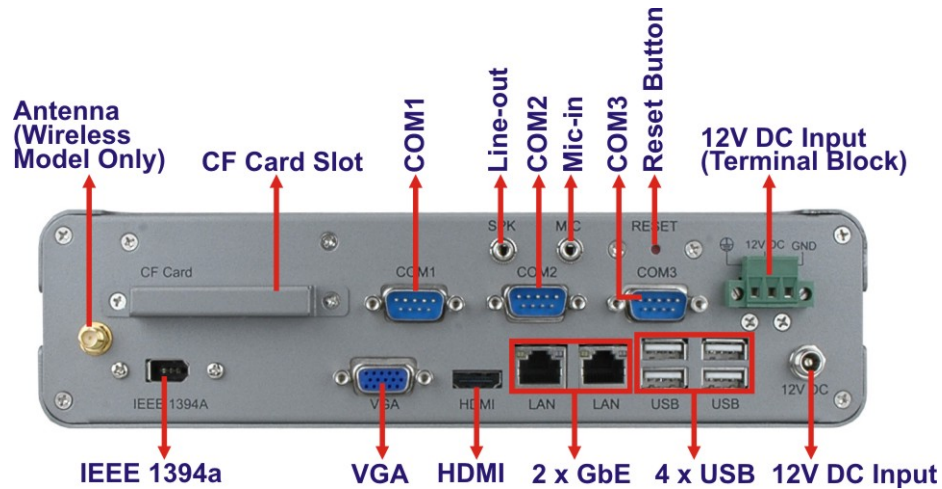

Figure 3-18: Peripheral Connectors (Rear)
CN Location:	See Figure 3-18
- CN Location:** See **Figure 3-18**
Step 1: **Locate the DB-9 connector.** The location of the DB-9 connector is shown in **Figure 3-18**.